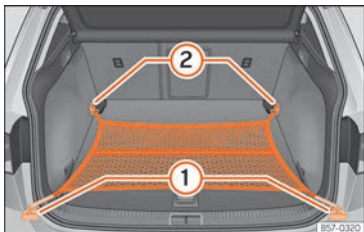

Fig. 139 In the luggage compartment: net bag hooked up at floor level.
- Secure the net hooks to the fastening rings ① and ② »» Fig. 139 »» ⚠. The bag zip should be facing upwards.